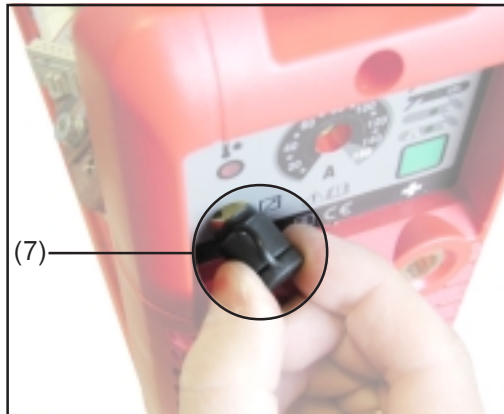

Fig. 13
- TP 1500 RC / 1500 TIG: Apply a thin layer of lubricant to the seal of the remote-control socket (7) (Fig. 13)